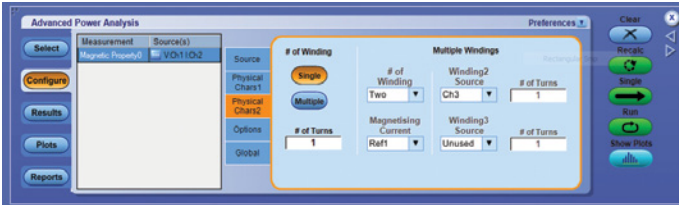

Figure 6. DPOPWR configure tab for B-H Plots.
The number of turns of the inductor (N), the magnetic length (l) and the cross-sectional area of the core (Ae) must first be entered as shown in Figure 6, before the power analysis software can compute a B-H plot.